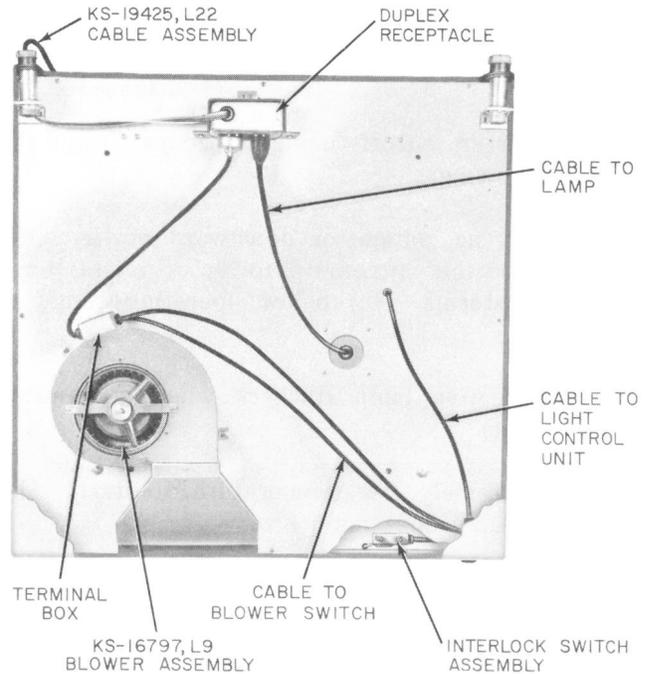

Fig. 6—KS-16797, List 9 Blower Assembly Installed
9. KS-16797, LIST 9 BLOWER (Fig. 6)